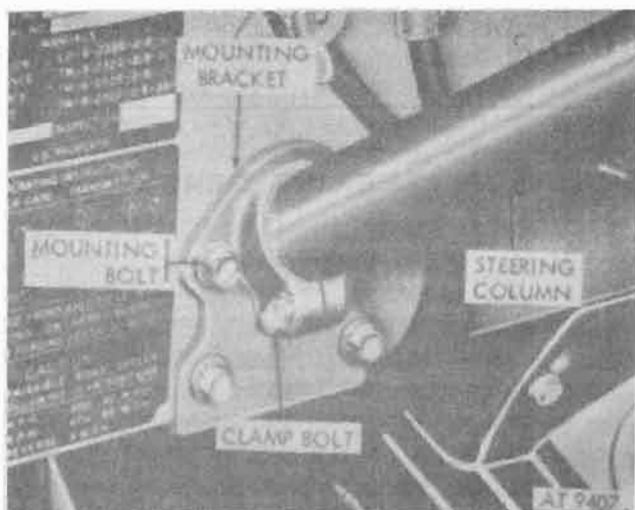

Figure 16-3. Steering column mounting bracket and attaching hardware (M151, M151A1, M151A1C, and M718 vehicles).
- c. Loosen steering gear column clamping bolt on instrument panel bracket (fig. 16-3).
- d. Remove four bolts securing column bracket to instrument panel and remove bracket (fig. 16-3).